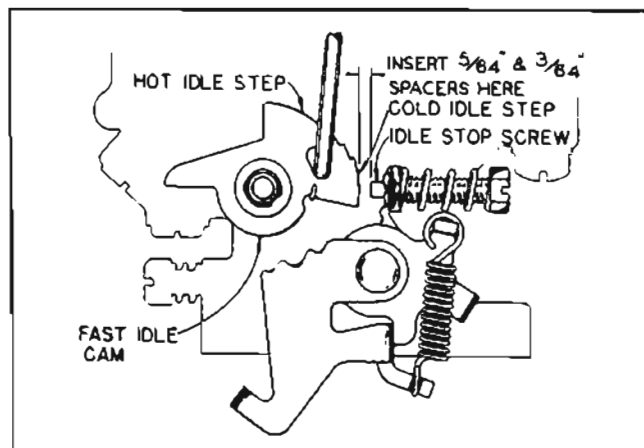

Figure 10-39—Spacer Between Idle Stop Screw and Fast Idle Cam
4. Place $\frac{5}{8}$ " spacer between idle stop screw and fast idle cam while holding fast idle cam in extreme cold idle position. Close throttle so that spacer will hold cam in this position. See figure 10-39. Turn ignition on, hold spacer and open throttle. *Engine should not crank.*
5. Still holding throttle open, place $\frac{3}{8}$ " spacer between idle stop screw and fast idle cam while holding fast idle cam in extreme cold idle position. Close throttle so that spacer will hold cam in this position (fig. 10-39) and again open throttle with ignition on. *Engine should crank.*